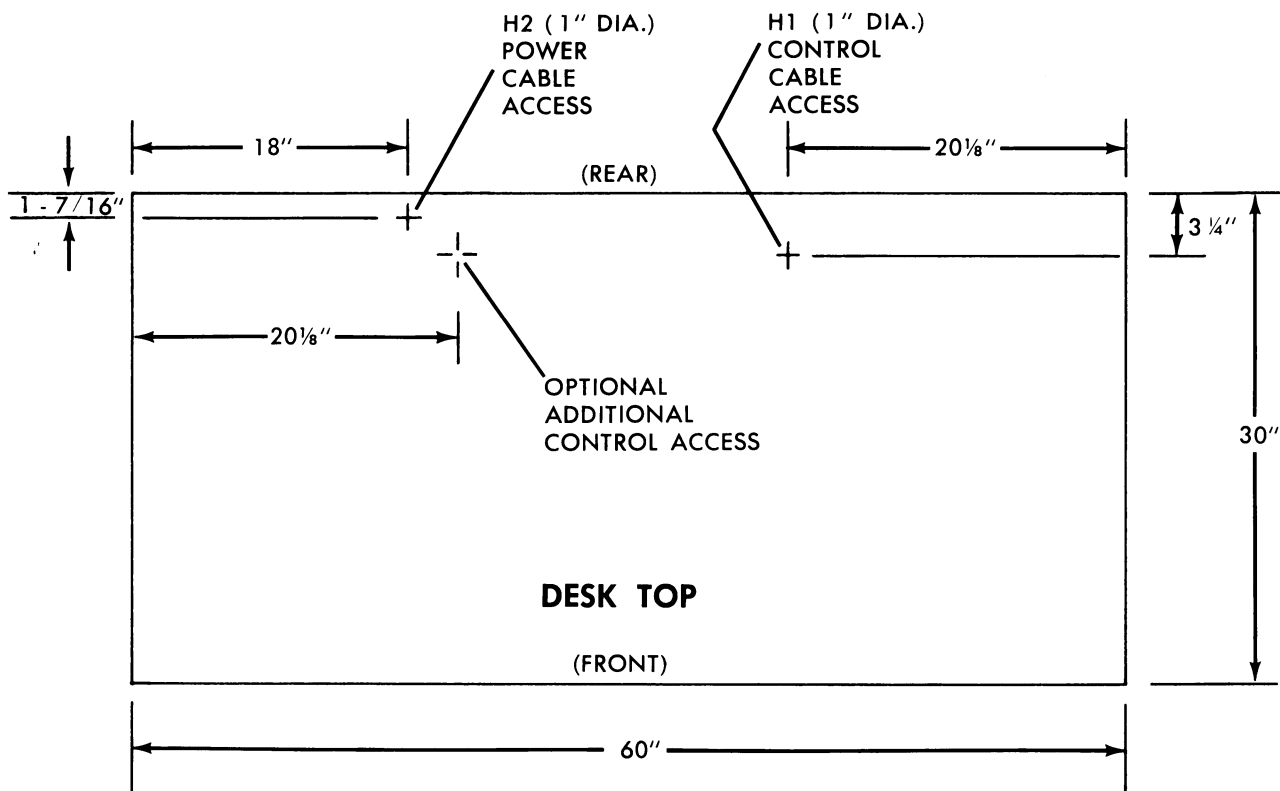

Figure 1 - Drill Plan for Cable Access Holes
1. Drill two 1-inch diameter cable access holes (H1 and H2) in the desk top as shown in Figure 1.